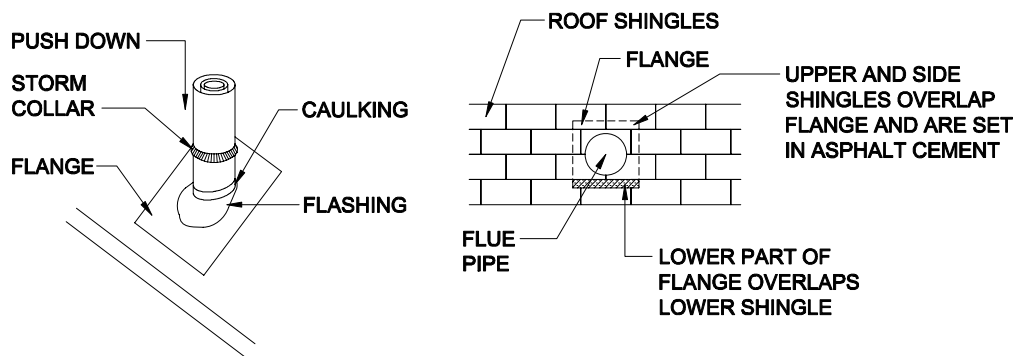

Figure 75. Roof flashing and shingle installation around chimney
5. **Complete shingles.** Cut shingles in successive courses to fit around the pipe and embed them in asphalt cement where they overlap the flashing. Secure shingles with roofing nails through flashing and apply asphalt cement over nail heads. The completed installation should appear as shown in **Figure 75**, with the lower part of the flange overlapping the lower shingles and the side and upper shingles overlapping the flange.